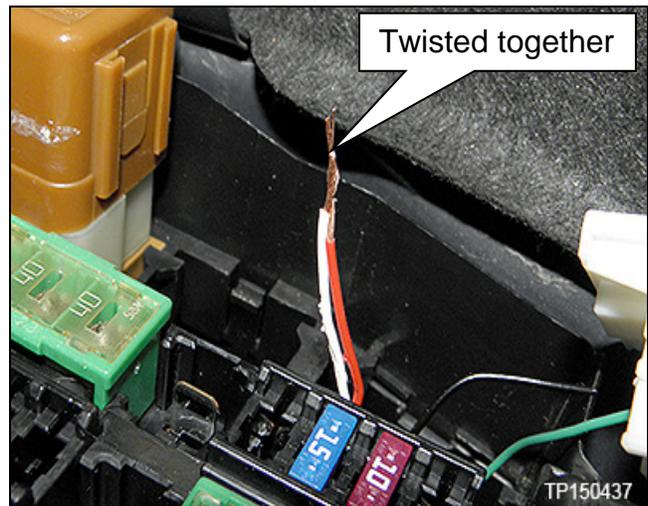

Figure 7
8. Twist the red and white wires together (Figure 7).